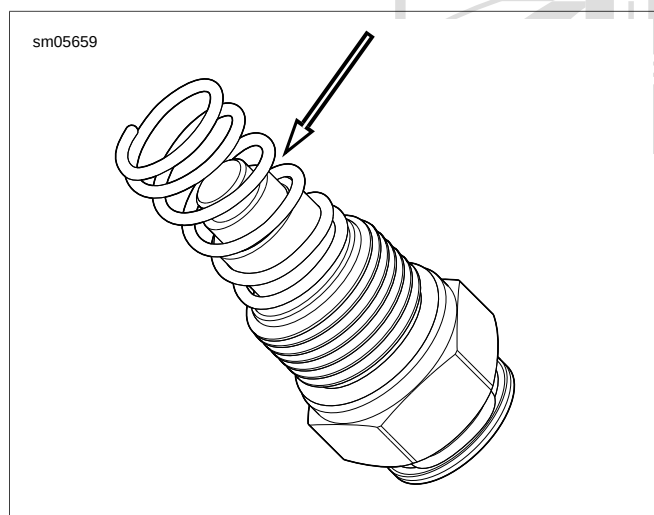

Figure 3-142. Thermostat: XR 1200X
3. See Figure 3-142. Inspect thermostat spring for distortion or cracks. Inspect rubber seal for damage. Replace thermostat assembly as necessary.